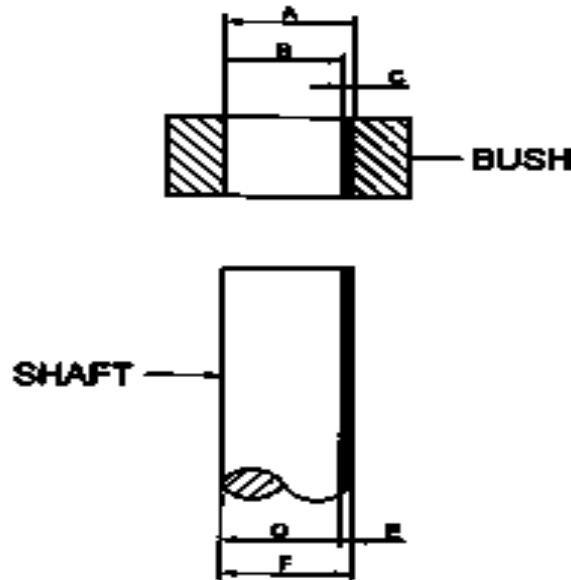

FIGURE 2
3.1 FIGURE 2 shows a visual representation of a clearance fit between a bush and a shaft. Labels A–F represent various terms associated with fits and limits. Identify these terms. Write only the answer next to the letter (A–F) in the ANSWER BOOK.